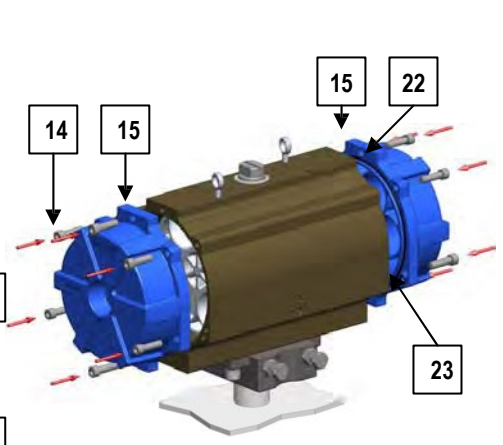

Fig. 26
For **SPRING RETURN ACTUATOR**: Introduce the spring set (13) into the cylinder (1) and center them on the piston (12), then mount the caps (15) with O-ring (22-2) centered on the springs (13). **Note: the pistons have to be in CLOSED position.** Screw partially down the screws (14) in crossed sequence compressing the springs uniformly until the cap (15) is completely closed (see Fig. 26). Repeat the operation on the opposite side.